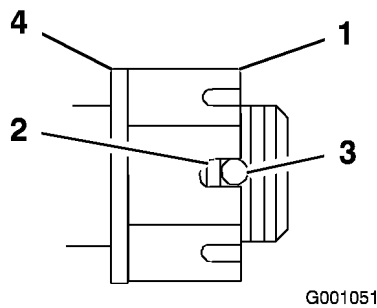

Figure 45
4. Torque the slotted nut to 125 ft-lb (170 N·m) (Figure 45).
5. Check the distance from bottom of slot in nut to inside edge of hole. Two threads or less should be showing (Figure 45).
7. Torque the slotted nut to 125 ft-lb. (170 N·m) (Figure 45).
8. Tighten the nut until the next set of slots line up with the hole in the shaft (Figure 45).